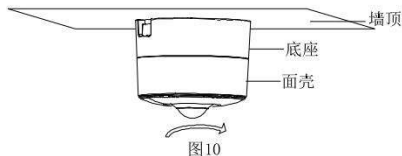

图10
(10) Rotate the sensor adaptor clockwise to the fastened position until a clear "click" sound is heard. As shown in Fig. 10.
如图 10 所示。